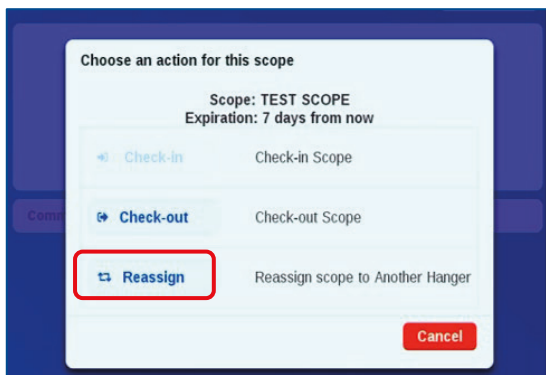
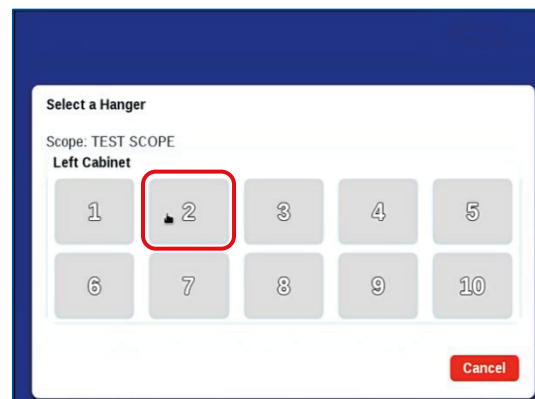

Fig. 79
Fig. 80
3. **SCOPE RE-ASSIGN:** Press the Reassign button (Fig. 79), and then select an available hanger (Gray Icons) when prompted to re-assign the required Scope. (Fig. 80).